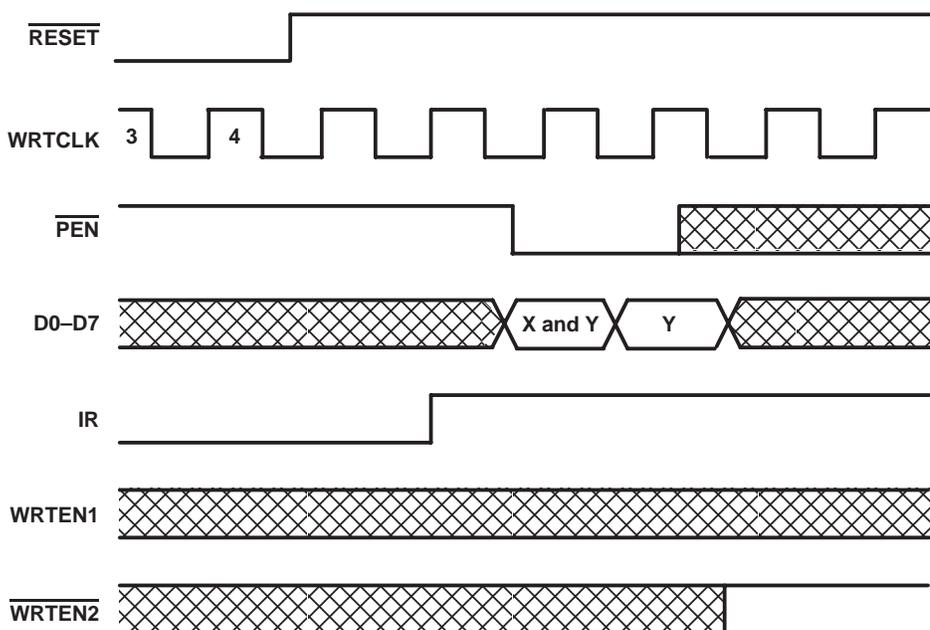

Figure 4. Programming X and Y Separately
Program enable (\overline{PEN}) should be held high throughout the reset cycle. \overline{PEN} can be brought low only when IR is high and WRTCLK is low. On the following low-to-high transition of WRTCLK, the binary value on D0–D7 is stored as the almost-empty offset value (X) and the almost-full offset value (Y). Holding \overline{PEN} low for another low-to-high transition of WRTCLK reprograms Y to the binary value on D0–D7 at the time of the second WRTCLK low-to-high transition. When the offsets are being programmed, writes to the FIFO memory are disabled, regardless of the state of the write enables (WRTEN1, WRTEN2). A maximum value of 255 can be programmed for either X or Y (see Figure 4). To use the default values of X = Y = 64, \overline{PEN} must be held high.